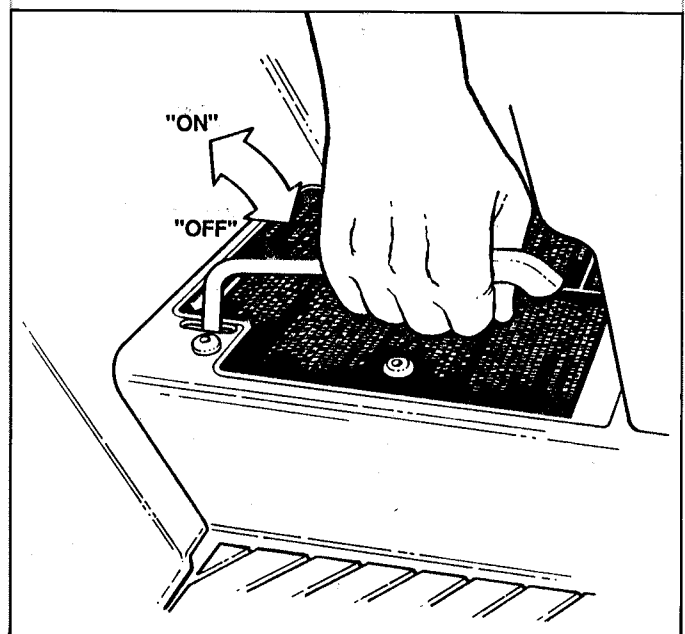

FIGURE 10A
START MOWER BLADE by pulling **BLADE CONTROL LEVER "UP"** to "ON". See Figure 10A.
3. Push **BLADE CONTROL LEVER** downward to "OFF" position. Refer to Figure 10A.